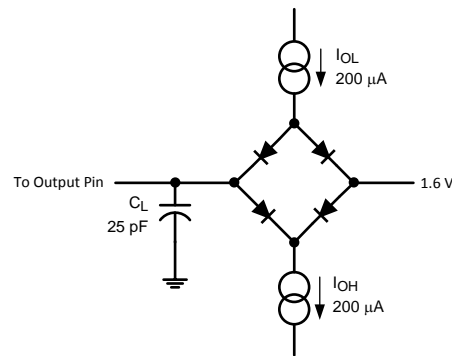

Figure 3. Timing Test Circuit
- (1) Measured with the timing test circuit shown in Figure 3 and defined as the time taken by the output signal to cross 1.0V.
(2) Measured with the timing test circuit shown in Figure 3 and defined as the time taken by the output signal to cross 1.0V or 2.0V.
(3) t_{DIS} is derived from the time taken by the outputs to change by 0.5V with the timing test circuit shown in Figure 3. The measured number is then adjusted to remove the effects of charging or discharging the output capacitance. This means that t_{DIS} is the true bus relinquish time, independent of the bus loading.